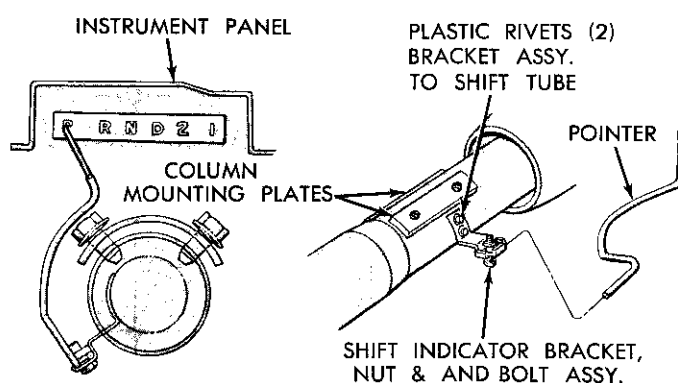

Fig. 24—Gear Selector Indicator Bracket
With gearshift lever in neutral position, attach indicator operating bracket to shift tube with two new plastic rivets (Fig. 24).
(6) Position floor plate over floor pan opening, centering it around the column, then install and tighten retaining bolts. Slide "O" ring down the jacket and into recess in floor plate, position retaining plate over "O" ring and secure with the two bolts. **Do not pry to align plates and attaching bolts or column misalignment will occur.**
(7) Loosen bolt attaching the forward adjustable hanger to the instrument panel support. Attach column bracket forward leg to the hanger and tighten to 110 inch-pounds. **Then tighten the hanger to instrument panel support bolt to 200 inch-pounds.**
(8) Connect gearshift indicator pointer (Fig. 24) to operating bracket on shift tube in its approximate original location. Slowly move gearshift lever from